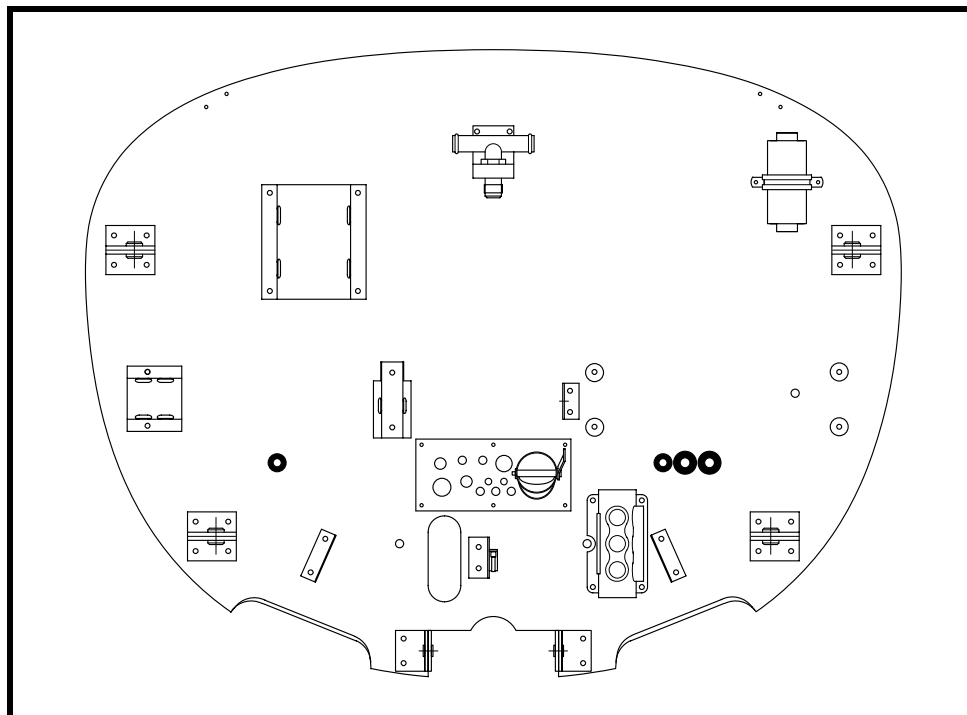

Figure 24
- ❑ If available, you may install P/N 867 fuel pump mounting bracket and P/N 879 gascolator mounting bracket on the bolts for the rudder pedals as shown in Figure 24. The support bracket for the Christen oil separator is also shown.